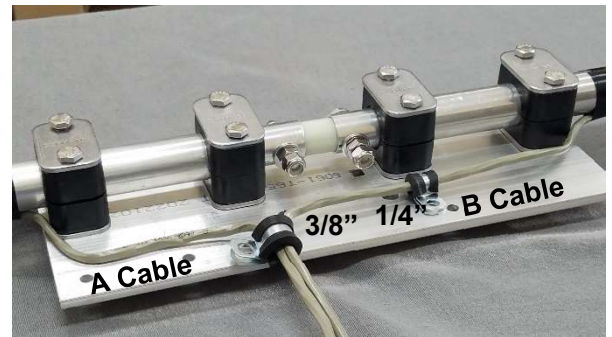

FIGURE 93
□ **STEP 8.11** Locate (1) 3/8" cushioned P-clamps (11106) and (1) 1/4" cushioned P-clamp (11107) and the two cut ends of the two CAT3 cables.
□ **STEP 8.12** For the half-element B cable, slide B cut end first through a 1/4" P-clamp followed by sliding through a 3/8" (**FIG. 93**)
□ **STEP 8.13** Slide the A cut end from half-element A through the same 3/8" P-clamp with CAT3 cable B, as shown in **FIG. 93**.